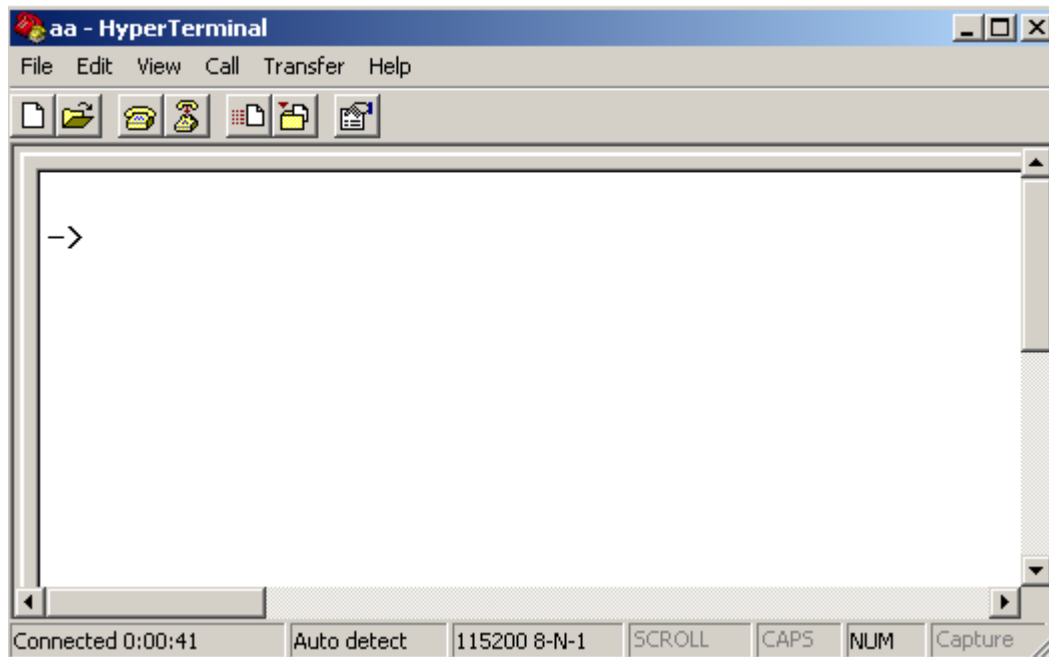

Fig. 3.1.7 Hyper Terminal command prompt
Step 2: Press “Enter” in Hyper Terminal, the prompt “->” appear, as in Fig. 3.1.7. Under this prompt the following operation commands to accomplish the setup of the parameters.